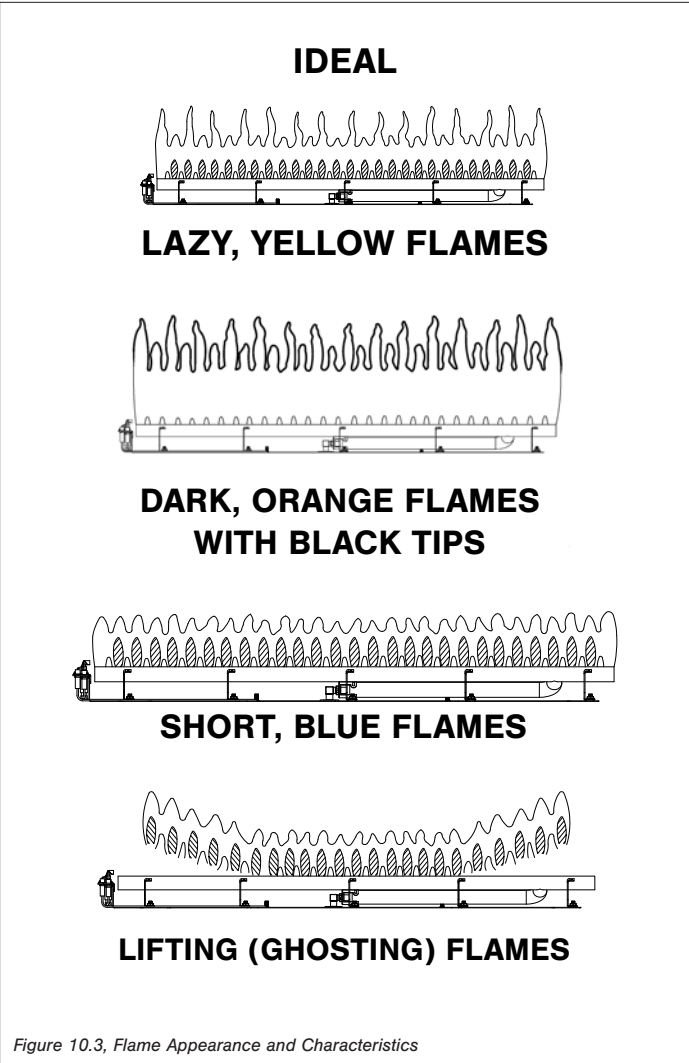

Figure 10.3, Flame Appearance and Characteristics
- Visually check pilot light and burner flame pattern when in operation. Flames should be steady, not lifting or floating. Refer to Figure 10.3, Flame Appearance and Characteristics on page 29 for more information.